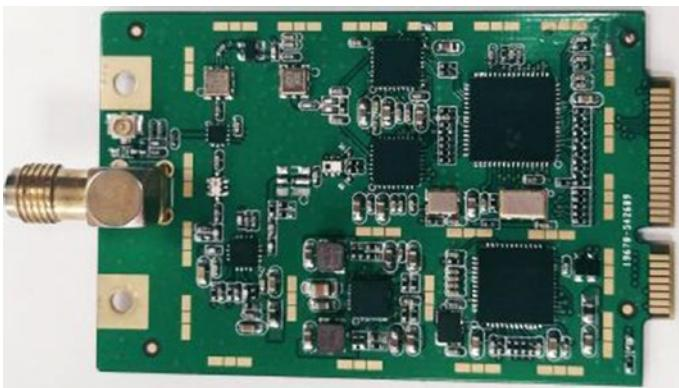

Figure 1-15. SX1301-based eight-channel LoRa gateway module
- Figure 1-15 shows the SX1301 and SX1278 eight-channel LoRaWAN gateway module that can be used to build LoRa gateways with the Raspberry Pi. These modules are expensive, so in this book we will focus on building single-channel LoRa gateways.